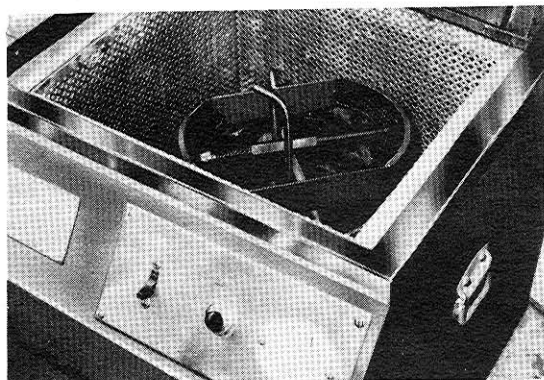

Fig.7-17 Bonding Brake V2629
3. Install the wheel cylinder assemblies onto the brake backing plate as illustrated in the figure 7-17 and 7-18.